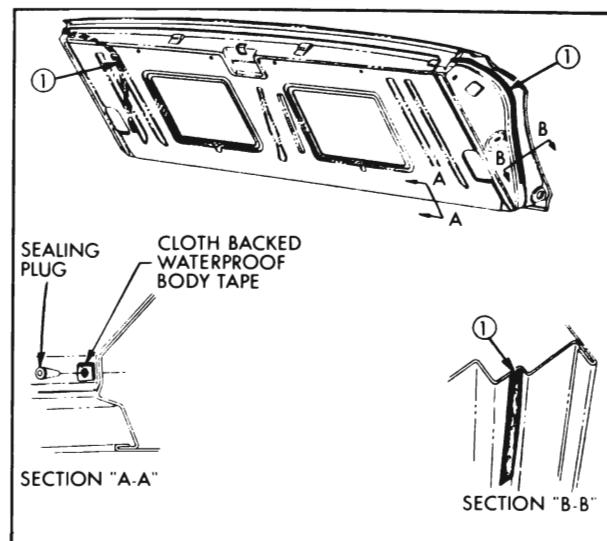

Figure 4-31—Tail Gate Weatherstrip Installation
NOTE: If sealing plugs are loose and will not remain engaged in panel, install a 1/2" x 1" piece of cloth backed waterproof body tape over sealing plug retaining hole, as shown in Section "A-A" (Figure 4-31) to form an "X" pattern. Check sealing plug for snug fit. If plug is still loose, repeat above operation by installing second piece of tape over existing repair.
4. Apply (brush coat) weatherstrip adhesive (neoprene type) on face of rabbet contacted by weatherstrip along full length of lock pillar as indicated at "1" in Section "B-B" (Figure 4-31).